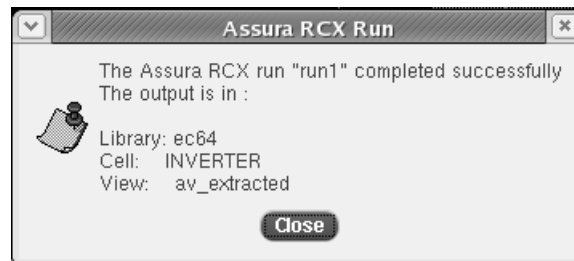

Figure 6.7: RCX Extraction
2. Click **OK** again to extract the layout parasitics to make the extracted netlist. This step will create another View, **av\_extracted** as shown in Fig.6.7.